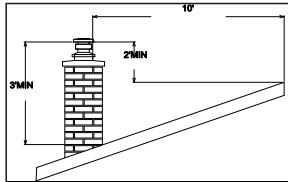

Figure 2
1.4 The chimney must extend at least 3 ft. higher than the point where it penetrates the roof and at least 2 ft. higher than any roof or structure within a 10 ft. radius. See Figure 2.